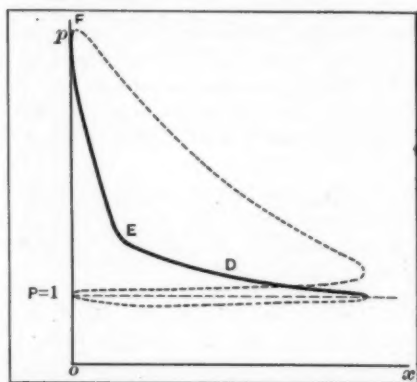

Fig. 6—Too much advance to the ignition
Fig. 6.—Fissure in the section between core and shell, which is the result of an improperly conducted hardening process, seen at 300 diameters under the microscope.
**IGNITION.**—Ignition errors have the greatest influence on the general form of the diagrams as can be seen by examining the diagrams shown in Figs. 6 and 7. Fig. 6 shows the effect of an exaggerated